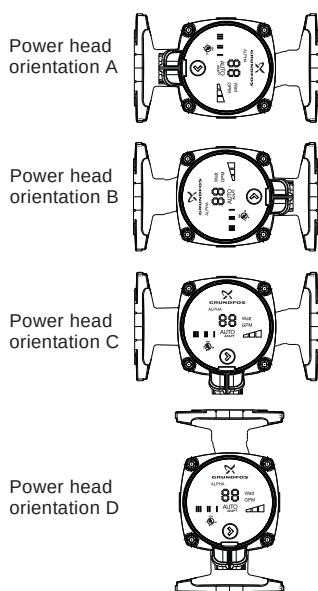

Fig. 3 Changing the power head position
Review fig. 3 for possible/permissible positions.
2. Loosen 4mm screws and turn the pump head to desired position; see fig. 3.